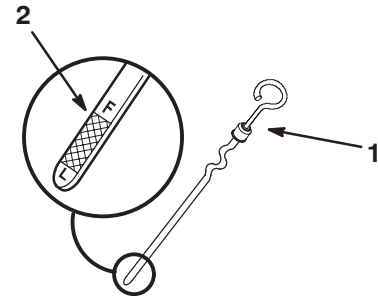

Figure 12
3. Pull out the oil dipstick and wipe the metal end clean (Fig. 12).
4. Slide the oil dipstick fully into the filler tube. Pull the dipstick out and look at the metal end (Fig. 12). If oil level is low, slowly pour only enough oil into the filler tube to raise the level to the full mark.